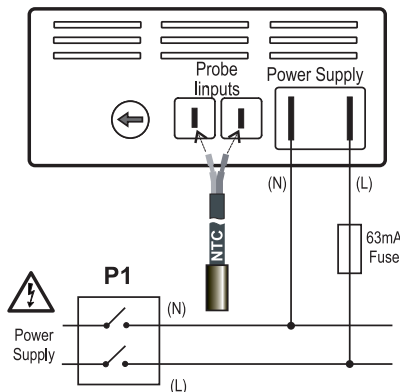

Fig. 1
Installation (Fig.1)
- ⚠ Disconnect the power supply from the board by means of the panel switch (P1 in Fig.1)**
- If possible, the manufacturer suggests connecting the phase (L) to the fast-on on the right and neutral (N) to the fast-on on the left as indicated.
Disconnection and probe substitution (Fig.1)
- ⚠ Disconnect the power supply on the board where the instrument is positioned, by means of the panel switch (P1 in Fig.1)**